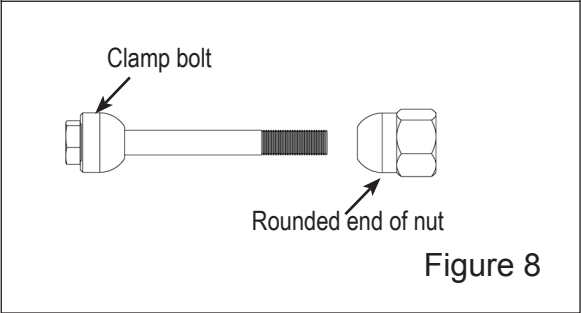

Figure 8
3. Insert clamp bolt through the clamp ends and thread the clamp nut onto clamp bolt with rounded end of the nut (Fig 8) towards the ends of the clamp.